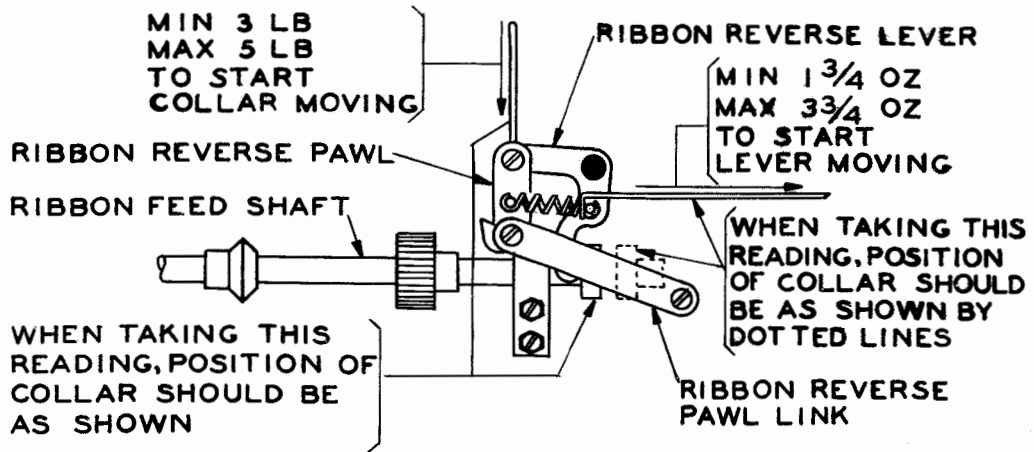

Figure 24
2.51 Ribbon-feed-shaft Safety Springs shall exert a pressure of minimum 3 pounds, maximum 5 pounds measured on the ribbon-reverse pawls when the feed shaft is held in engagement with the opposite spool-shaft gear and the main bail is in its uppermost position. (See Figure 24.)
2.56 Ribbon-reverse-pawl Spring tension shall be minimum 1-3/4 ounces, maximum 3-3/4 ounces with the ribbon-feed-shaft collar moved away from the ribbon-reverse lever as shown dotted in Figure 24.